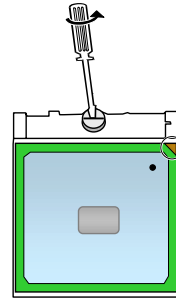

Figure 2-9 Remove the CPU
5. To remove the existing CPU, Loosen the screw by a flat screwdriver,upraise the CPU socket to unlock the CPU. (Figure 2-9)